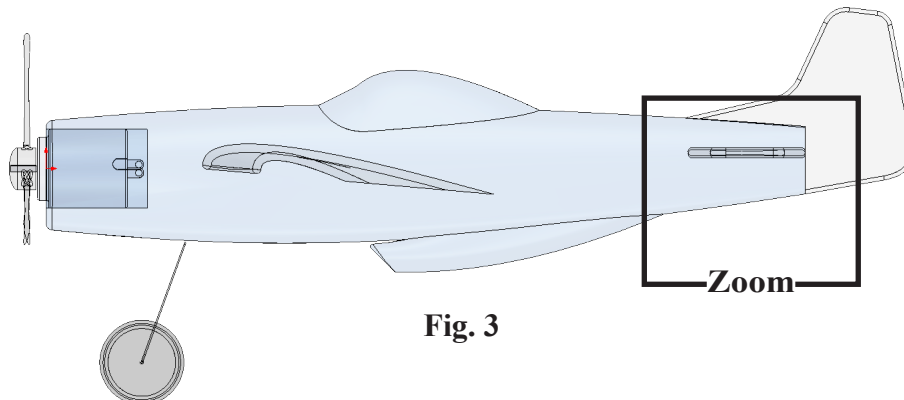

Fig. 3
Step 3. Zoom in around the **rear of Fuselage**, **Fig. 3**. To zoom, place the cursor over the rear and spin the wheel on mouse back. While spinning the wheel keep cursor on rear.